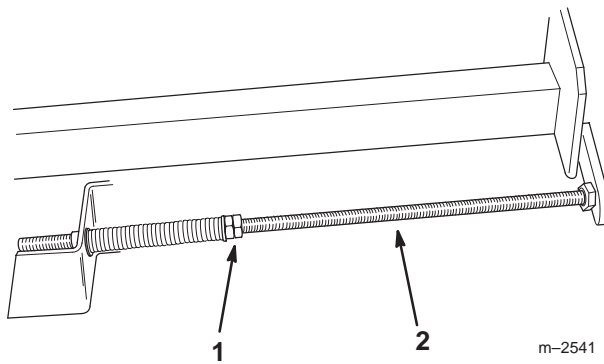

Figure 25
3. Loosen the jam nuts on each adjusting shaft to loosen the tension on the drive belt (Fig 25).